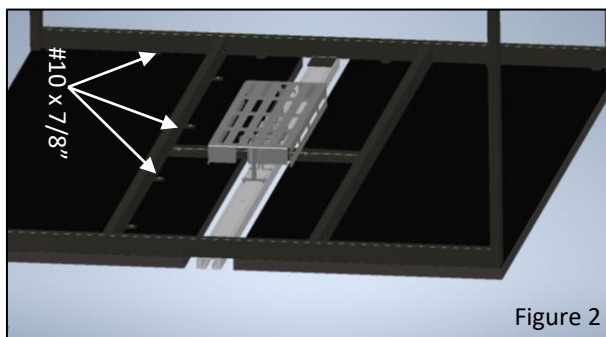

Figure 2
4. If included, use the connecting plate to connect two tops together by securing it on the underside of the tops centered side to side and front to back as shown. Use #10 x 7/8" screws to screw into the top panels and 1/4-20 x 1/2" screws to go into the aluminum rail (Figure 2)